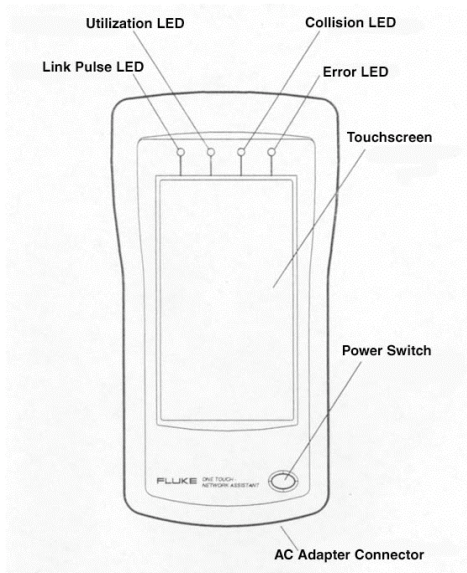
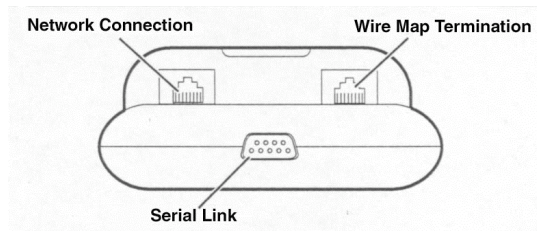

Figure 1
Figure 2
1. With the Fluke in hand and touch screen facing you. (See fig. 1) Take 4' cat 5 network cable with a RJ-45 connector and connect it to the "Network connection" connector on the top left hand side of the Fluke (See fig 2).
3. Turn on the Fluke, by pressing the green power switch on the lower right corner of the Fluke (refer back to fig. 1).
4. When you turn on the Fluke, the first green LED (going left to right) should light up while the second (still going left to right) should be blinking. (refer back to fig. 1) This indicates the network jack is active.